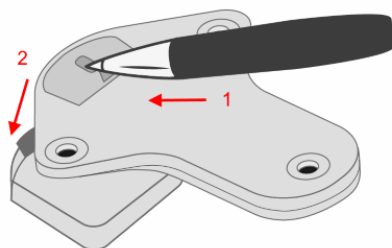

Fig. 3 – Opening the battery compartment
Use a ballpoint pen to unlock the battery compartment. Hold the recorder securely in one hand with the rear to the top and gently push the tip of the ballpoint pen into the hole (1) until the latch is released. The battery compartment opens downward (2) and can be removed now (Fig. 3).